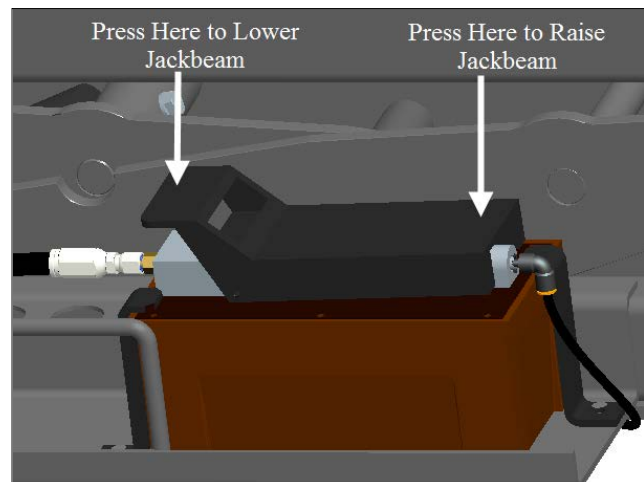

Figure 7-Pump Operation
4. Press and hold the Raise end of the pedal of Air/Hydraulic pump until the vehicle wheels have sufficient clearance from the runway surface for the type of service being performed. Ensure that the Jackbeam can be lowered onto a mechanical safety lock. See **Figure 7**.